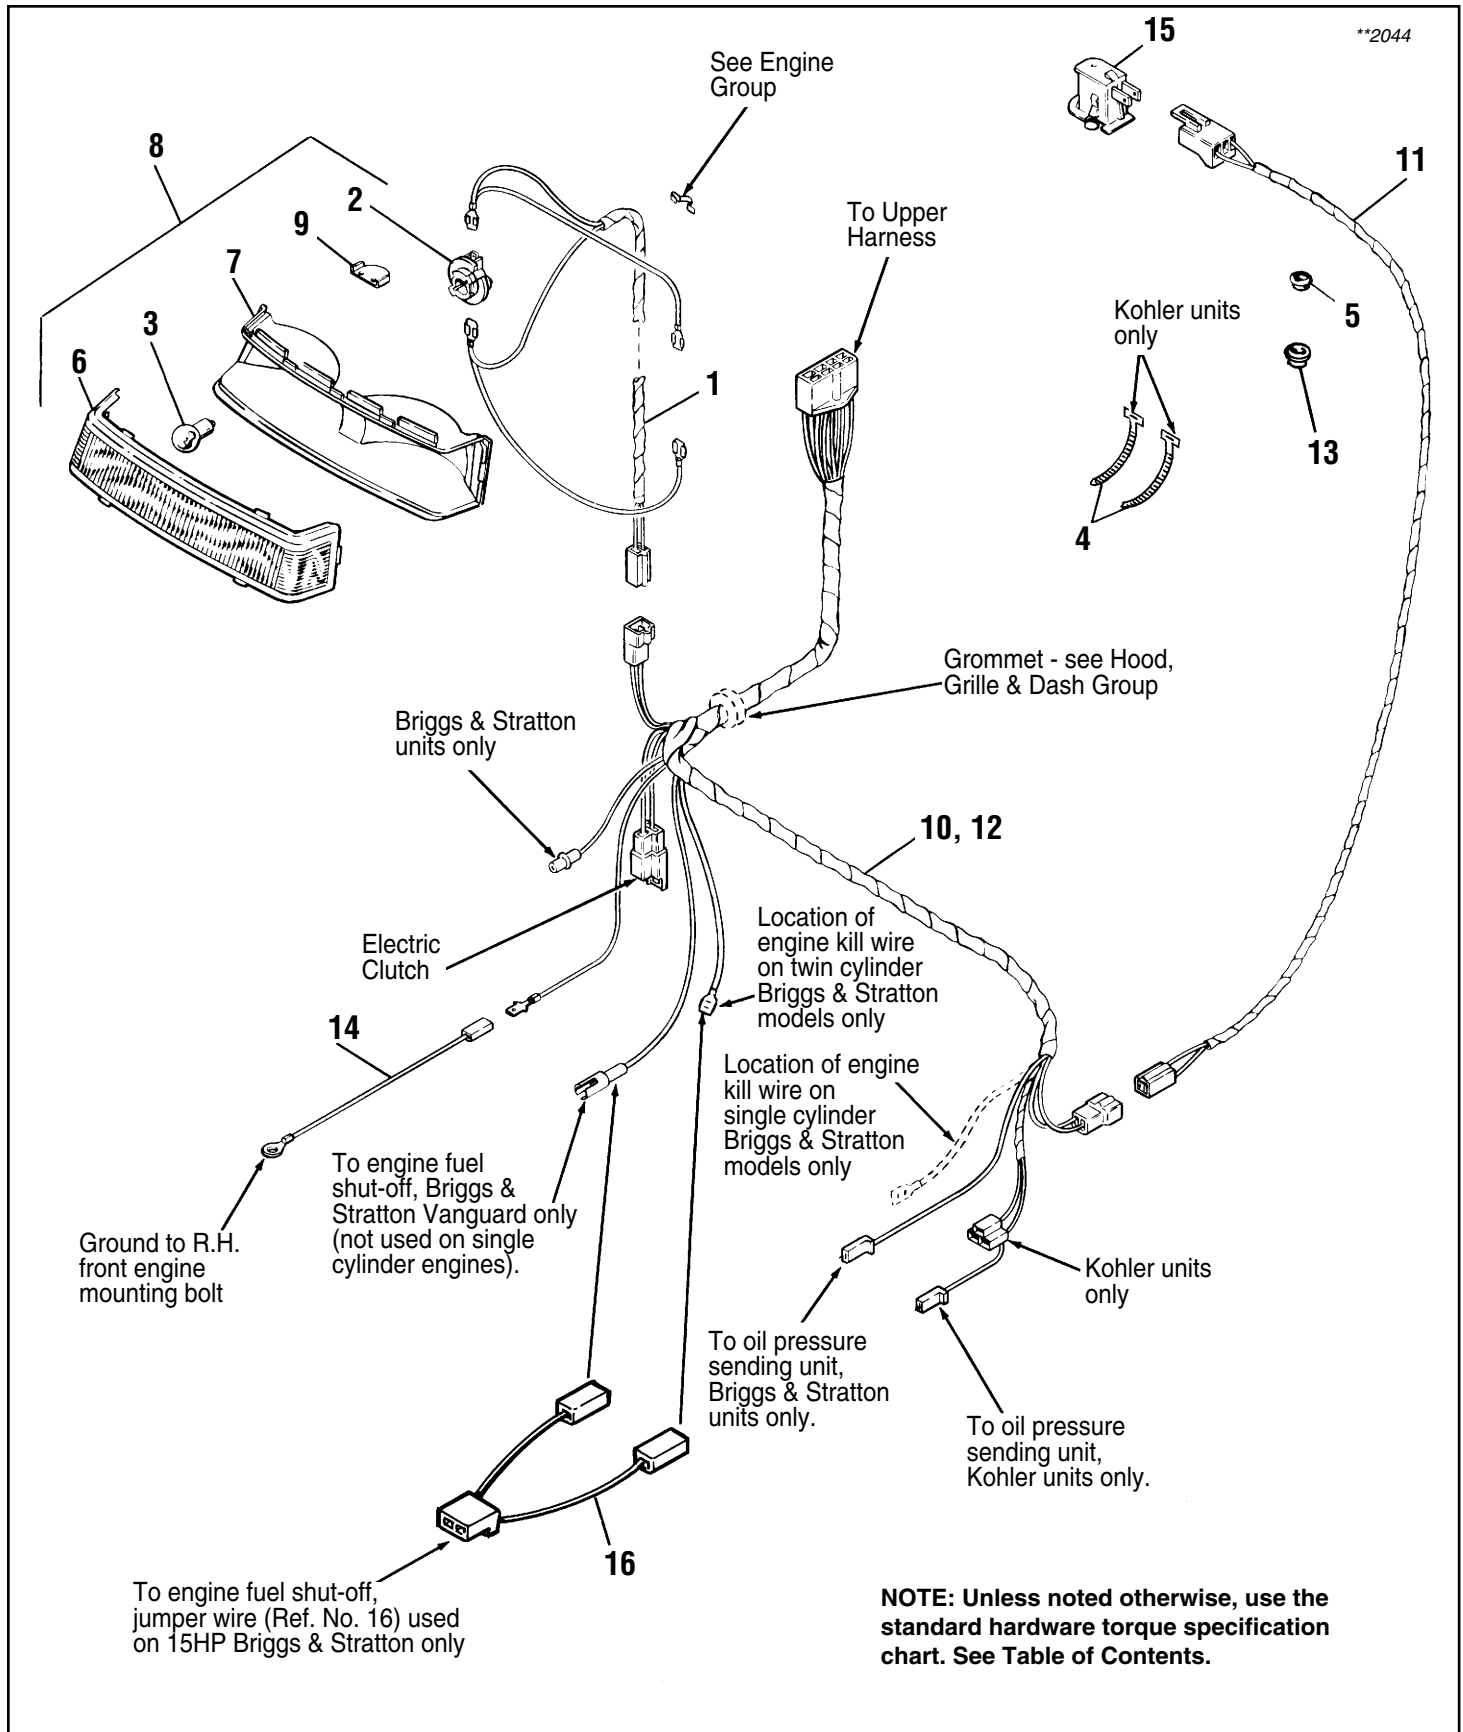

Figure 1. Lower Wiring Harness
2. Check all connectors, terminals, and receptacles for looseness or corrosion. See Figures 1 and 2.